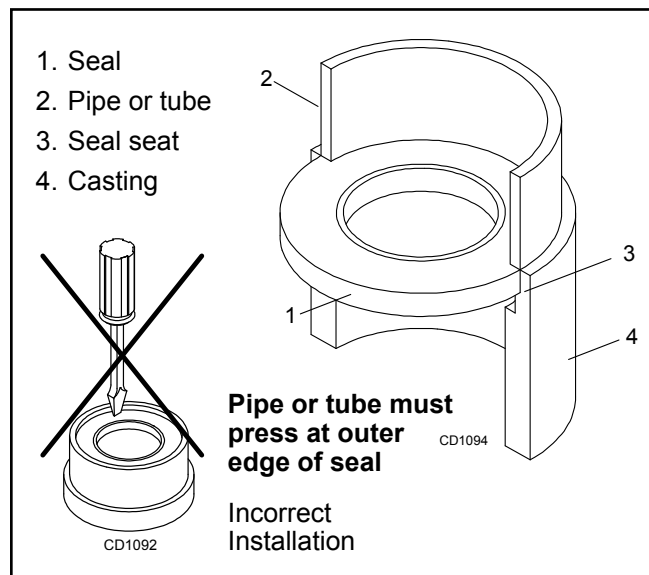

Figure 27. Seal Installation
1. Clean area in housing where seal outer diameter (OD) seats. Apply a thin coat of Permatex.
4. Place seal squarely on housing, spring-loaded lip toward housing. Select a piece of pipe or tubing with an OD that will sit on the outside edge of the seal but will clear the housing. Tubing with an OD that is too small will bow seal cage and ruin seal. See Figure 27.